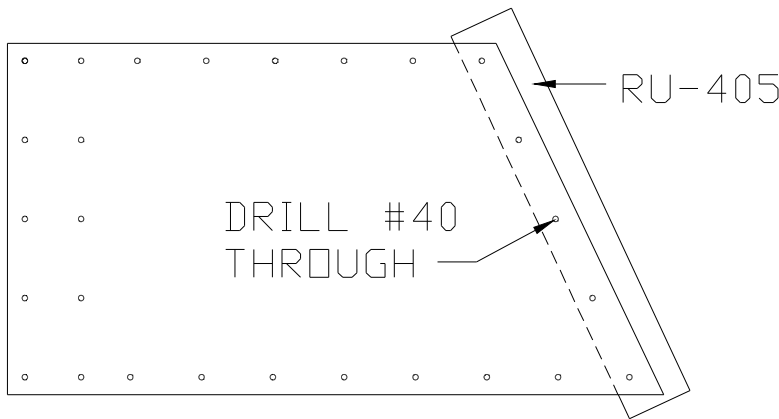

Figure 4.3.6
- 9) Re-install the skins. Slide the RU0405 Leading Edge Skin so that it overlaps the tip skins. Tape it securely. Using the tip skins as a drill guide drill #40 holes through the Leading Edge Skin. Cleco. Figure 4.3.6.